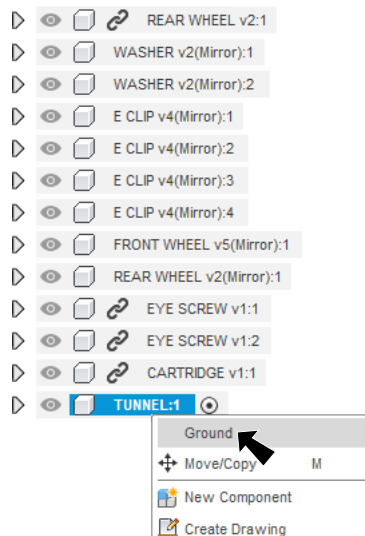

Fig. 14
Step 1. Right click **Tunnel**  in Browser and click **Ground**, **Fig. 14.**